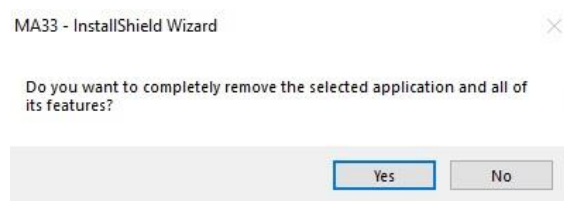

Figure 13
- **MAICO Database:** starts the parallel setup of the MA 33 Software and the MAICO Database. In case the MAICO Database is already installed deinstallation of the program will be requested prior to installation (Figure 13).
In case a reinstallation of the MA 33 Software via InstallShield Wizard is required, start the process with setup.exe. The InstallShield Wizard will ask you if you want to completely remove the selected application and all of its features (Figure 13). Select one of the options to proceed.